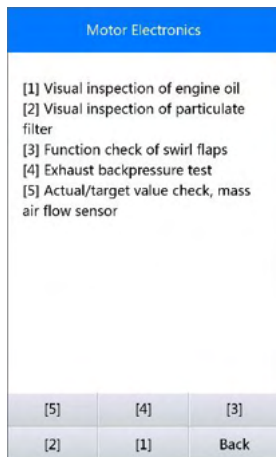

Figure 5-32 Sample Particle Filter Tests
- 1) Select [1] and **OK** button from the particle filter test menu (Figure 5-32).
- 1) Select **[2]** and **OK** button from the particle filter test menu (Figure 5-32).
- 1) Select **[3]** and **OK** button from the particle filter test menu (*Figure 5-32*).
- 1) Select **[4]** and **OK** button from the particle filter test menu (*Figure 5-32*).
1) Select **[5]** and **OK** button from the particle filter test menu (*Figure 5-32*).